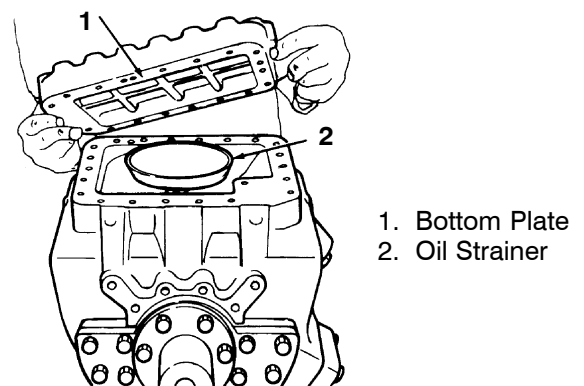

Figure 3-10. Bottom Plate Removal
1. Turn the compressor over, bottom side up, and remove the bottom plate. (See Figure 3-10) Scrape off gasket.